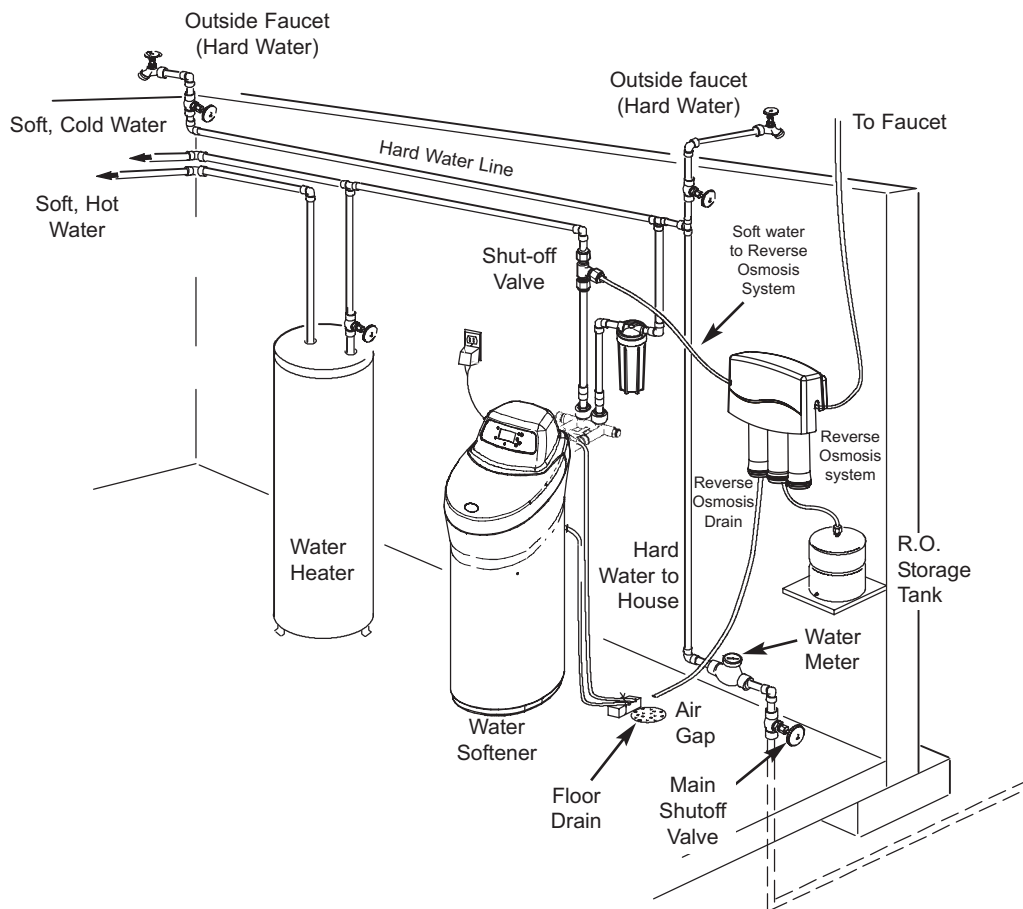

FIG. 3
1. Place as close as possible but always after, the pressure tank (well water) or water meter (city water). See Fig. 3.
2. Place as close as possible to a water drain such as a floor drain, laundry tub, sump or standpipe. See Fig. 3.
3. Connect to the house main water pipe **BEFORE THE WATER HEATER**. See Fig. 3. **Temperature of water going through the softener must not be more than 120°F (49°C)**. Hot water will damage inner softener parts. *To reduce the risk of hot water backup*, piping between the softener and water heater should be as long of a run as possible.
4. Keep outside faucets on hard water to save soft water and salt. See Fig. 3.
7. A grounded, 120V electrical outlet is needed within 10 feet of the softener. See Fig. 3. This is to plug in the transformer. The softener has a 10 foot power cable. **Be sure the outlet and transformer are in an inside place, to protect from wet weather**. Use a continuously "live" outlet, which cannot be accidentally switched off.